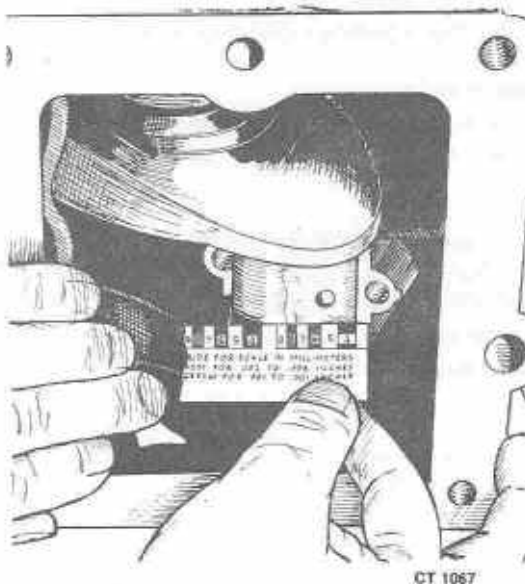

FIGURE 79. MEASURING BEARING CLEARANCE
- Remove the bearing cap and leave the flattened Plastigage on the part to which it adheres. Compare the widest point of the flattened Plastigage with the graduations on the envelope (see Figure 79) to determine the bearing clearance.